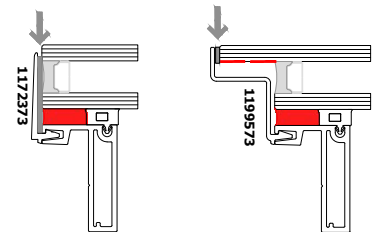

FIG. 6
- For Captured & SSG applications slide in supplied glass supports. See FIG 6.